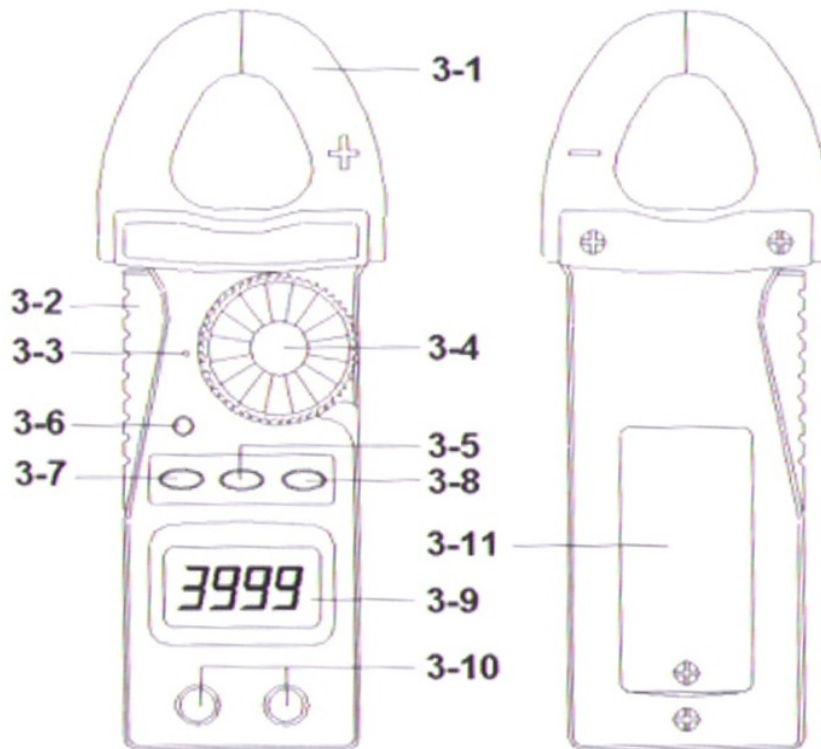

Fig. 1
- 3) If measure " DCV ", select the " Function rotary switch " ( 3-4, Fig. 1 ) to the " V " position then push the " FUNC. button " ( 3-7, Fig. 1 ) for display show "  " .
- 4) If measure " ACV ", select the " Function rotary switch " ( 3-4, Fig. 1 ) to the " V " position then push the " FUNC. button " ( 3-7, Fig. 1 ) for display show "  " .
- 6) Under the operation of " auto range " mode, push the " Range button " ( 3-5 Fig. 1 ) will hold the range.
- 3) Select the " Function rotary switch " ( 3-4, Fig. 1 ) to the "  $\Omega$  " position then push the " FUNC. button " ( 3-7, Fig. 1 ) for display show "  $\Omega$  " .
- 5) Under the operation of " auto range " mode, push the " Range button " ( 3-5 Fig. 1 ) will hold the range.
- 3) Select the " Function rotary switch " ( 3-4, Fig. 1 ) to the
- "  " position then push the " FUNC. button " ( 3-7, Fig. 1 ) for display show "  ".
- 3) Select the " Function rotary switch " ( 3-4, Fig. 1 ) to the "  " position then push the " FUNC. button " ( 3-7, Fig. 1 ) for display show "  ".
- 1) Select the " Function rotary switch " ( 3-4, Fig. 1 ) to the " 600A " position then push the " FUNC. button " ( 3-7, Fig. 1 ) for display show "  ".
- 2) Press the " Trigger " ( 3-2, fig. 1 ) to open the " Current Sensor Jaws " ( 3-1, Fig. 1 ) & clamp on the measure conductor only.
- 4) Under the operation of " auto range " mode, push the " Range button " ( 3-5 Fig. 1 ) will hold the range.
- 4) Under the operation of " auto range " mode, push the " Range button " ( 3-5, Fig. 1 ) will hold the range.
- \* **Push the " REL. button " ( 3-8, Fig. 1 ), the " AUTO " indicator will disappear instead of the " REL. " mark. In the same time, display will change to zero value.**
- \* **After push the " REL. button ", the meter will under the manual mode ( not auto range ). If intend change the DCA range ( 400A to 600A, or 600A to 400A ), then should push the " Range button " ( 3-5, Fig. 1 ).**
- 3) Select the " Function rotary switch " ( 3-4, Fig. 1 ) to the " Hz " position, LCD will show the mark of " Hz " .
- 1) During the measurement of ACV, ACA, DCV, DCA & ohm, the circuit will memorize the last measured values if push the " REL. button " ( 3-8, Fig. 1 ) at once, then LCD will show zero value & a " REL. " indicator.